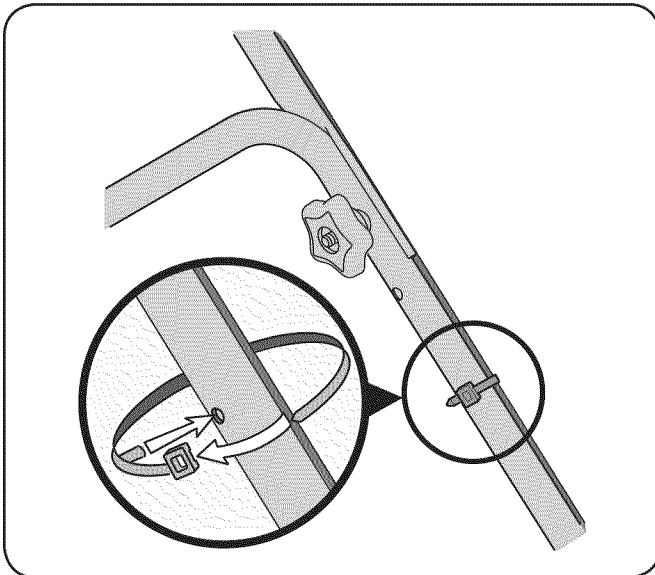

Figure 3-4
4. Insert post on cable ties into holes provided on the lower handle. Pull cable tie tight and trim excess. See Fig. 3-4.